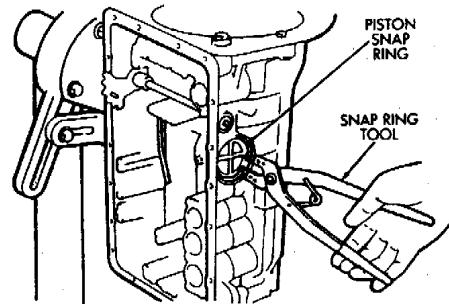

Fig. 33 Installing Second Coast Brake Piston Snap Ring
(41) Install replacement seals on second coast brake piston cover and install cover in case.
(42) Install second coast brake piston snap ring with tool B.Vi. FM-29 (Fig. 33).
(43) Check second coast brake piston stroke as follows: